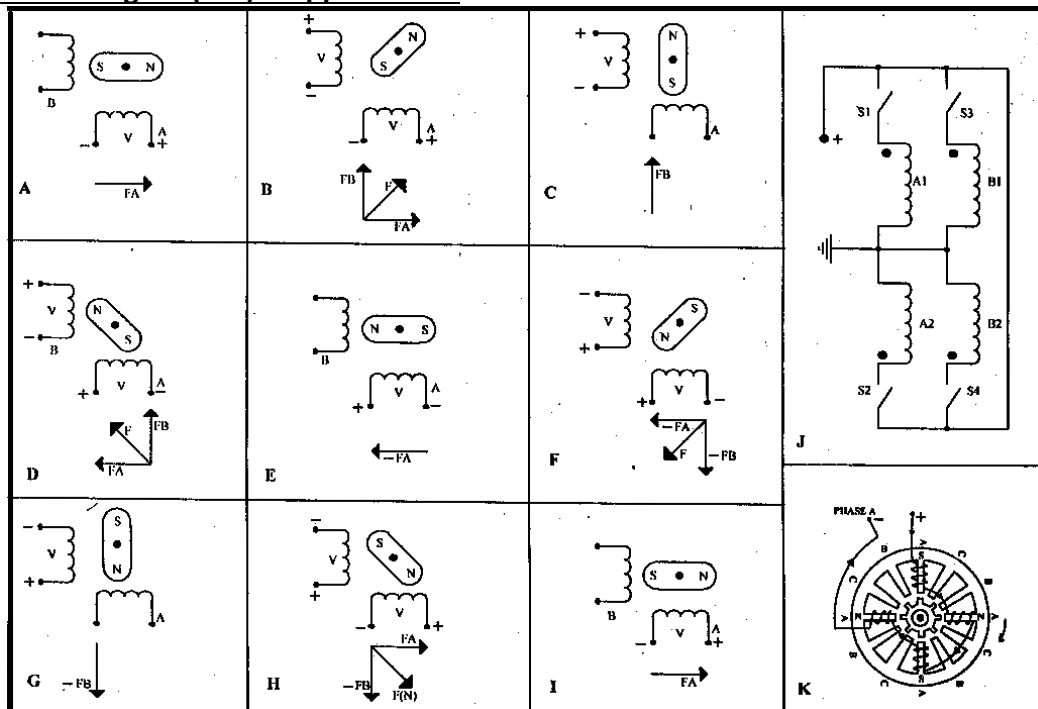

Fig 1: Stepper Motor in Operation
Fig 1 shows a PM stepper motor in its simplest form. It consists of two stator windings A, B and a rotor having two magnetic poles N and S. When a voltage +V is applied to stator winding A, a magnetic field F_A is generated as shown in Fig (A). The rotor positions itself such that its poles lock with corresponding stator poles.